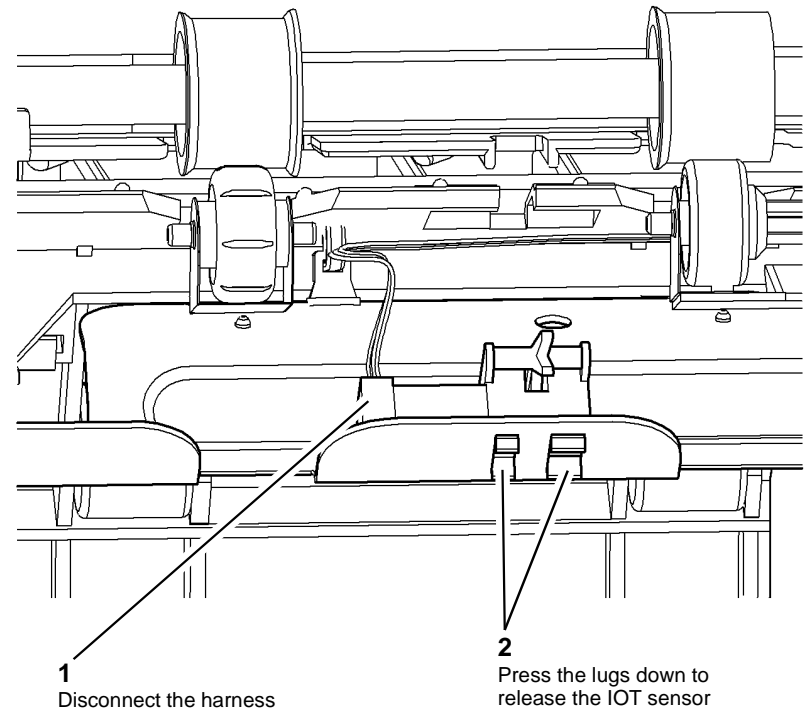

Figure 3 Remove the IOT sensor
5. Remove the IOT exit sensor, Figure 3.